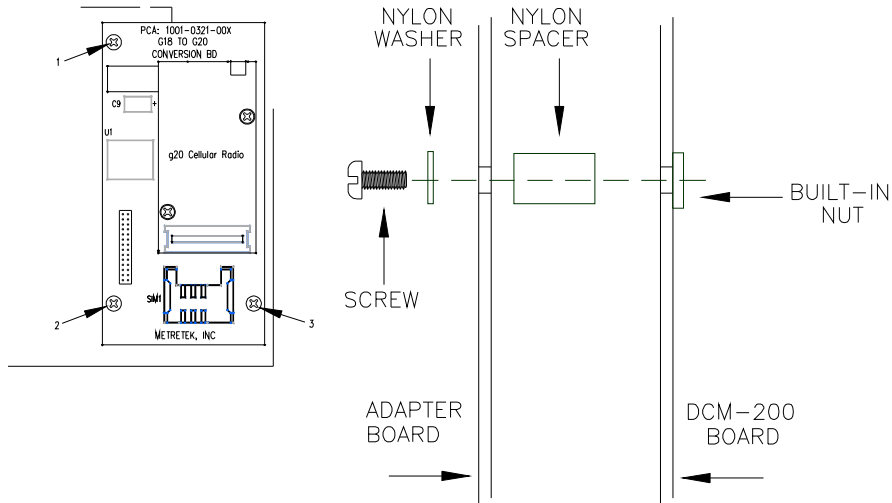

Figure 2-6
- 2) Reinstall the original three screws, spacers and washers as shown in Figure 2-6. The DCM-200 board already has non-removable nuts built in to the board.